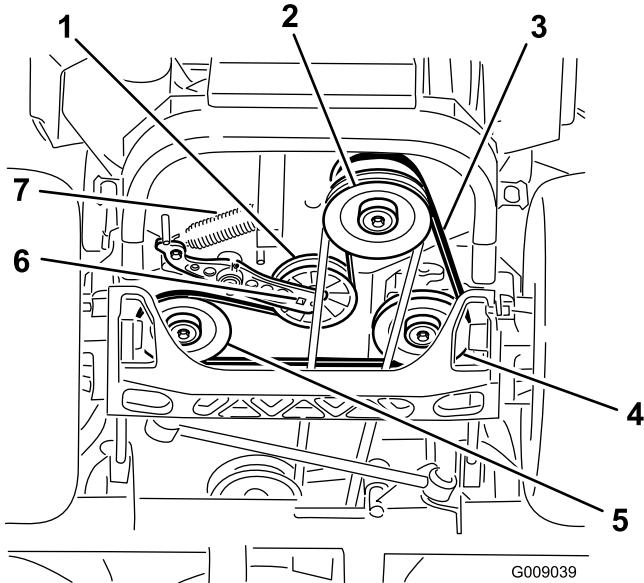

**Figure 78**
12. Install the belt covers (Figure 78).